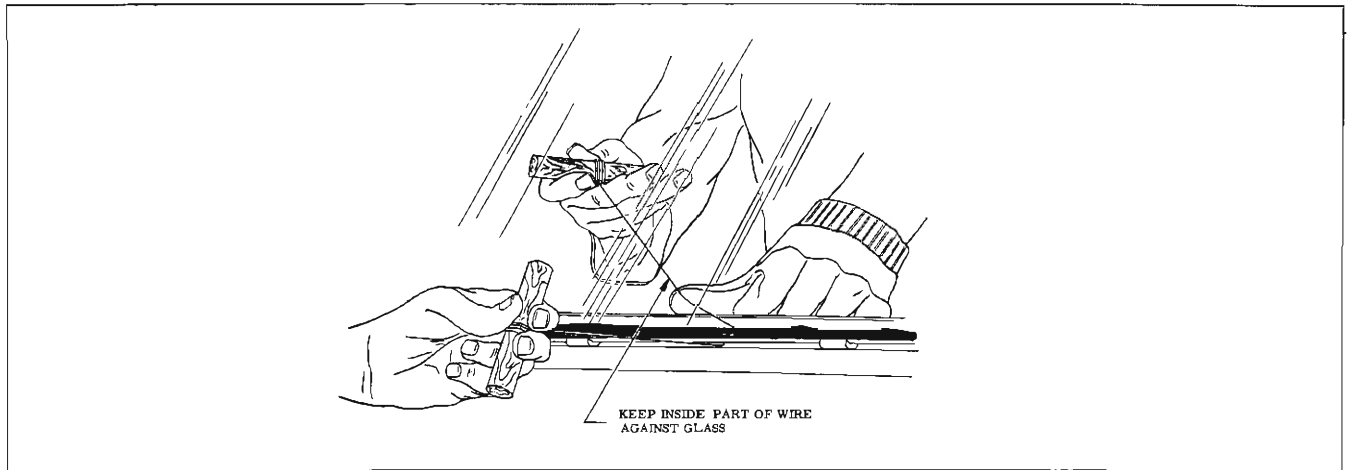

Fig. 11-5 Removing Glass
6. With aid of helper, carefully cut (pull steel wire) through caulked material, up side of windshield, across top, down opposite side and across bottom of windshield (Fig. 11-5). Make sure inside wire is held close to plane of glass to prevent cutting an excessive amount of adhesive caulked material from opening. This can be accomplished by holding inside wire close to plane of glass with one hand while pulling wire with other hand. Keep tension on wire throughout cutting operation to prevent kinks in wire.
6. With aid of helper, carefully cut (pull steel wire) through caulking material, up side of windshield, across top, down opposite side and across bottom of windshield (Fig. 11-5). To facilitate cutting through rubber spacers, use a sawing motion with steel wire. Avoid contact of steel music wire with instrument panel and windshield pillars by keeping inside wire close to plane of glass. Keep tension on wire throughout cutting operation to prevent kinks in wire.